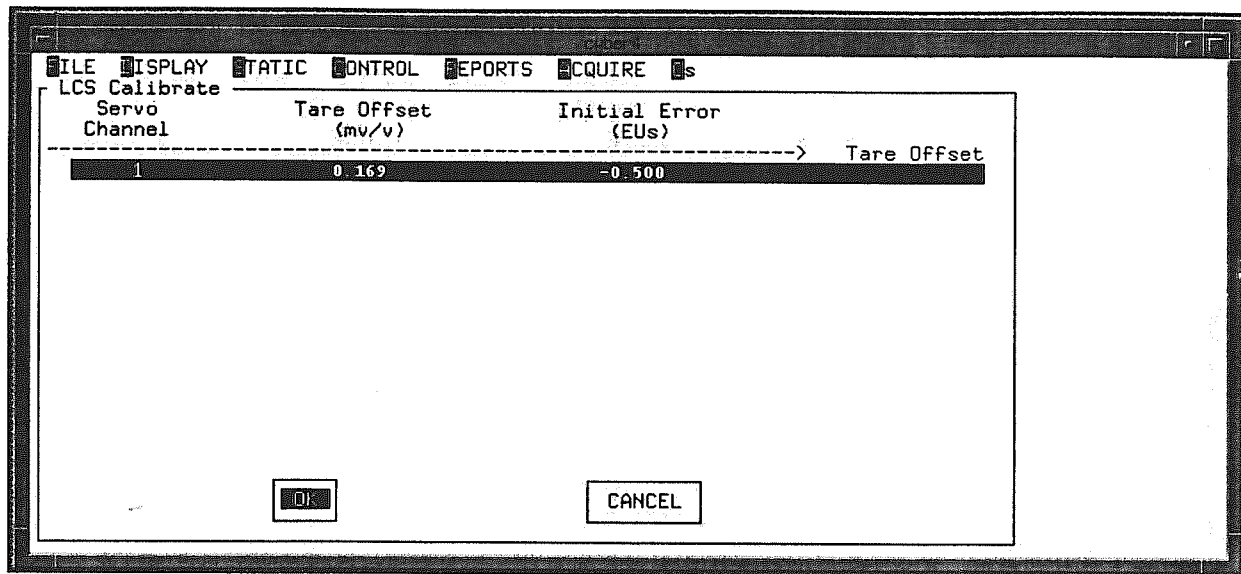

Figure 7-4 Tare Balance Report Screen
- Step 5:** Once Tare Balance is completed, the Tare Balance report shown in Figure 7-4 is displayed. The column labeled Tare Offset (mv/v) indicates how much tare offset was used for each control channel. The column labeled Initial Error (EUs) indicates what the initial loop error was for each control channel prior to when the system performed the Error Balance portion of the calibration procedure.